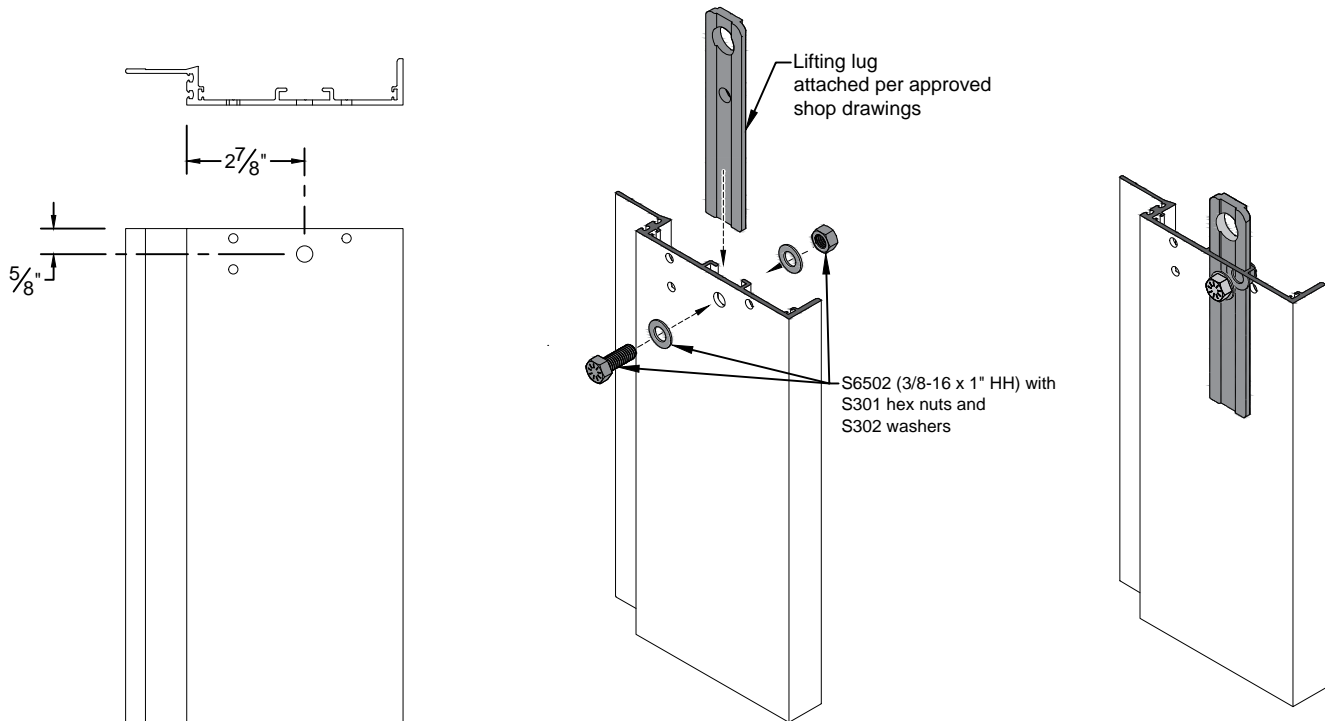

Fig. 35.1
- A. For multi-span applications or shop glazed frames requiring lifting lugs, attach the lifting (alignment) lugs to the tops of the verticals on each side per approved shop drawings. See Fig. 35.1 & 36.1